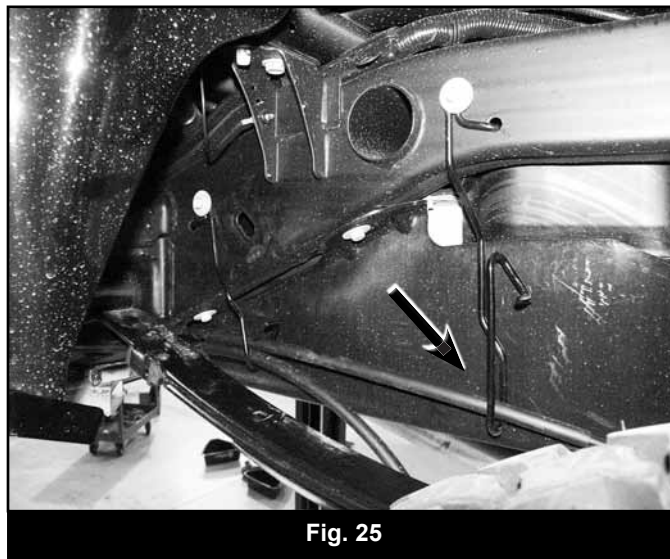

Fig. 25
7. Remove the driver's side parking brake cable from the rear-most retaining bracket on the driver's side frame rail (Fig 25).